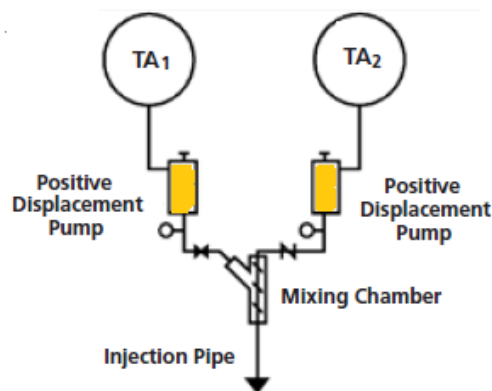

Figure 1. Field Equipment
3. Using a positive displacement pump, bring the two liquids together at the end of the discharge line, sending the combination through a static mixer at the injection point. (See Figure 1. Field Equipment)
Figure 1. (Field Equipment) Illustrates a layout using two variable speed positive displacement pumps feeding into a mixing chamber, located just before the point of injection. Terraset® Component A Silicate is blended with water in Tank (TA-1). This effectively cuts the viscosity of the base grout and ensures efficient mixing with the Terraset® Component B Hardener in the mixing chamber. Terraset® Component B Hardener is blended with water in Tank (TA2).